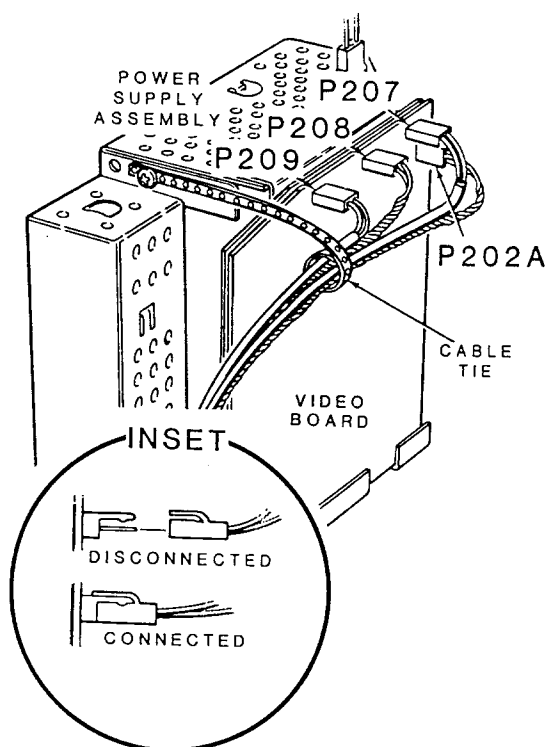

Figure 3-5. Disconnecting P202A, P207, P208, and P209
5. Disconnect cable connectors P202A (3-pin, 2-wire), P207 (2-pin, 2-wire), P208 (2-pin, 2-wire), and P209 (2-pin, 2-wire) from the video board, as shown in Figure 3-5. During reassembly, be sure that all connectors are connected to the correct cables. The 2-pin connectors and color identifications must match: red-to-red (P209), green-to-green (P208), and blue-to-blue (P207). Also during reassembly be sure that the connectors are fully mated, as shown in the inset of Figure 3-5.